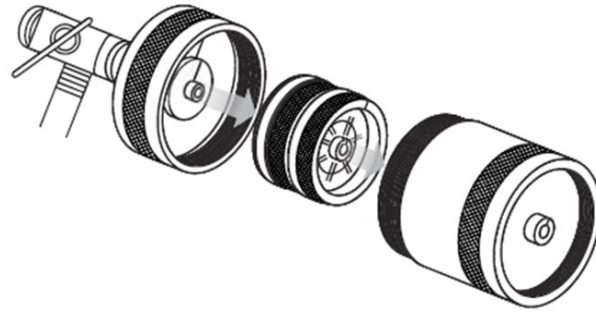

Figure 2: Monitor and Sampler Base
e. Unscrew the sampler cover from the sampler base and place the MWM into the sampler base with the outlet side (red plug side, also noted as the “spoke” side, “wagon wheel” side, or “spider web” side) facing down (Figure 2).